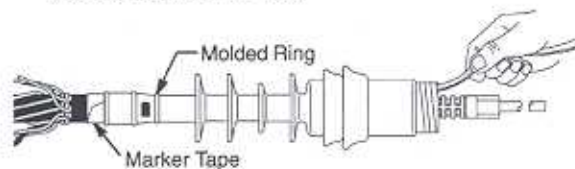

Figure 7
4. Place termination over cable and unwind the core allowing the termination to shrink into place (Figures 7 and 8).